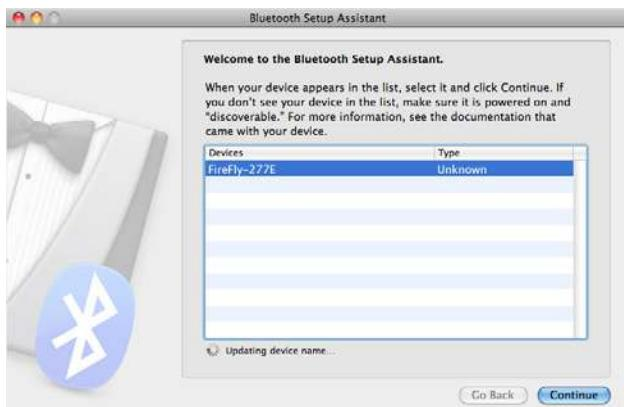

Figure 8-23. Selecting the Bluetooth Mate (FireFly) from the list of Bluetooth devices
1. Wait for the Bluetooth Setup Assistant to detect the Bluetooth Mate (it’s listed as an RN42 or FireFly device, as shown in Figure 8-23). Make a note of the name, because it will be used to name your serial port. For example, the device shown here is FireFly-277E. The serial port that’s created by this procedure is in the format /dev/tty.DEVICENAME-SPP, so in this case the serial port is /dev/tty.FireFly-277E-SPP. You’ll need to use this serial port next in “Testing the Bluetooth Connection.”